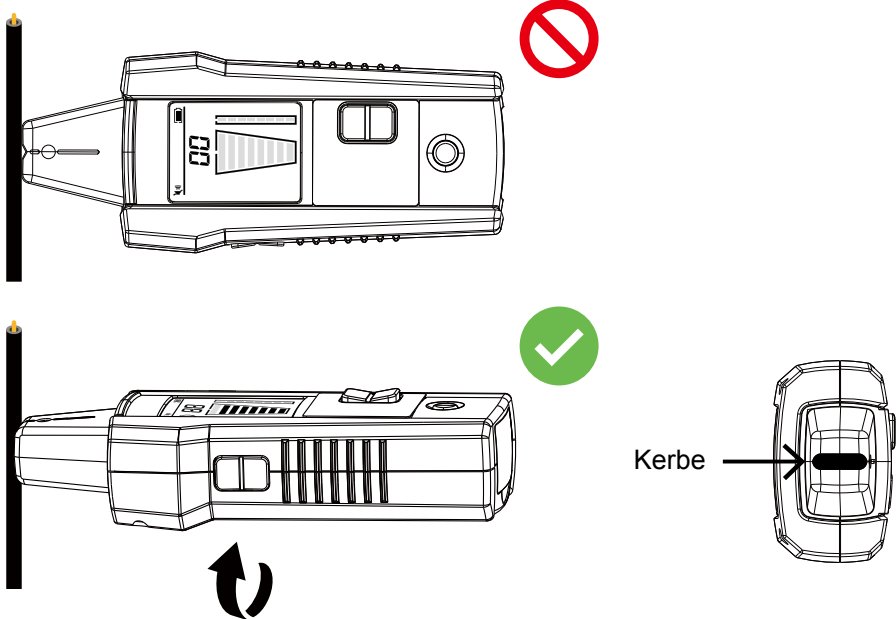

Figure 3.1e: Aligning the Tip Sensor groove
3. For best results while tracing Energized wires, align groove on the Tip Sensor with wire direction as shown in Figure 3.1e. Signal may be not detected if not properly aligned. To verify wire direction, periodically rotate the Receiver 90 degrees. Signal strength will be the highest when wire is aligned with the Tip Sensor groove.